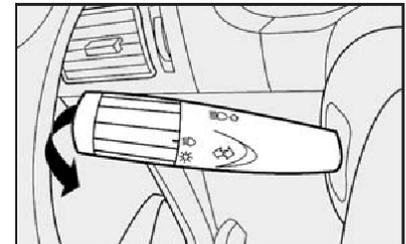

fig. 55
**Lampejos - fig. 55**
**Sistema Follow me Home - figs. 55 e 56**